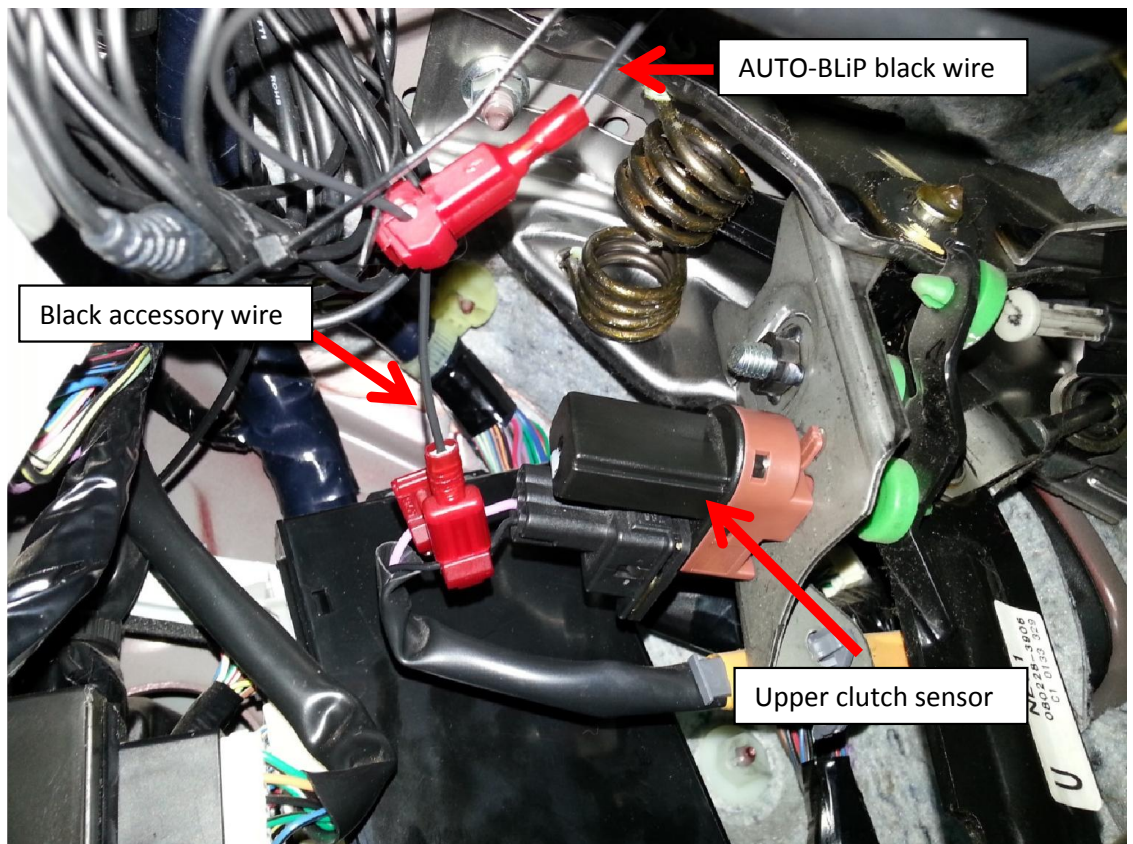

Figure 6 (Upper Clutch Sensor wiretap placement)
12. Attach supplied wiretap to the **black** wire on the UPPER clutch pedal sensor (**Figure 6**).
13. Connect the other end of the black accessory wire to the wiretap in **Step 12** (**Figure 6 & 7**).
14. Connect *AUTO-BLiP* **black** wire to the wiretap on the black accessory wire (**Figure 6 & 7**).